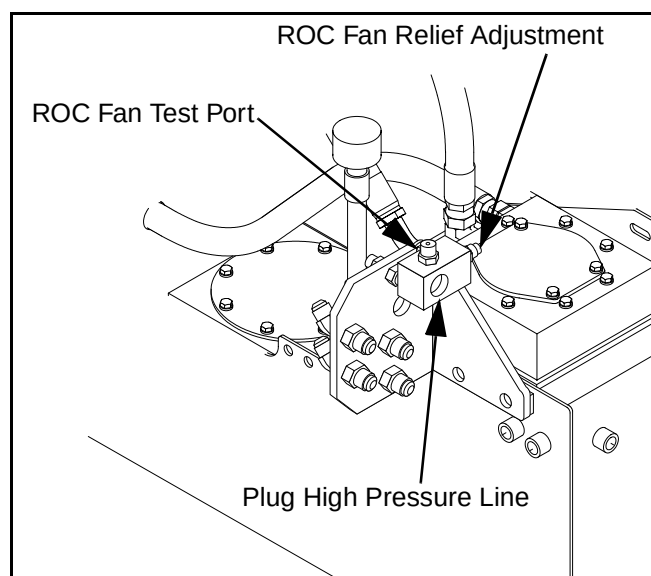

Figure 5 - 36 ROC Pressure Adjustment
- 1) Disconnect and plug the high pressure line to remote oil cooler fan motor. (Figure 5 - 36)